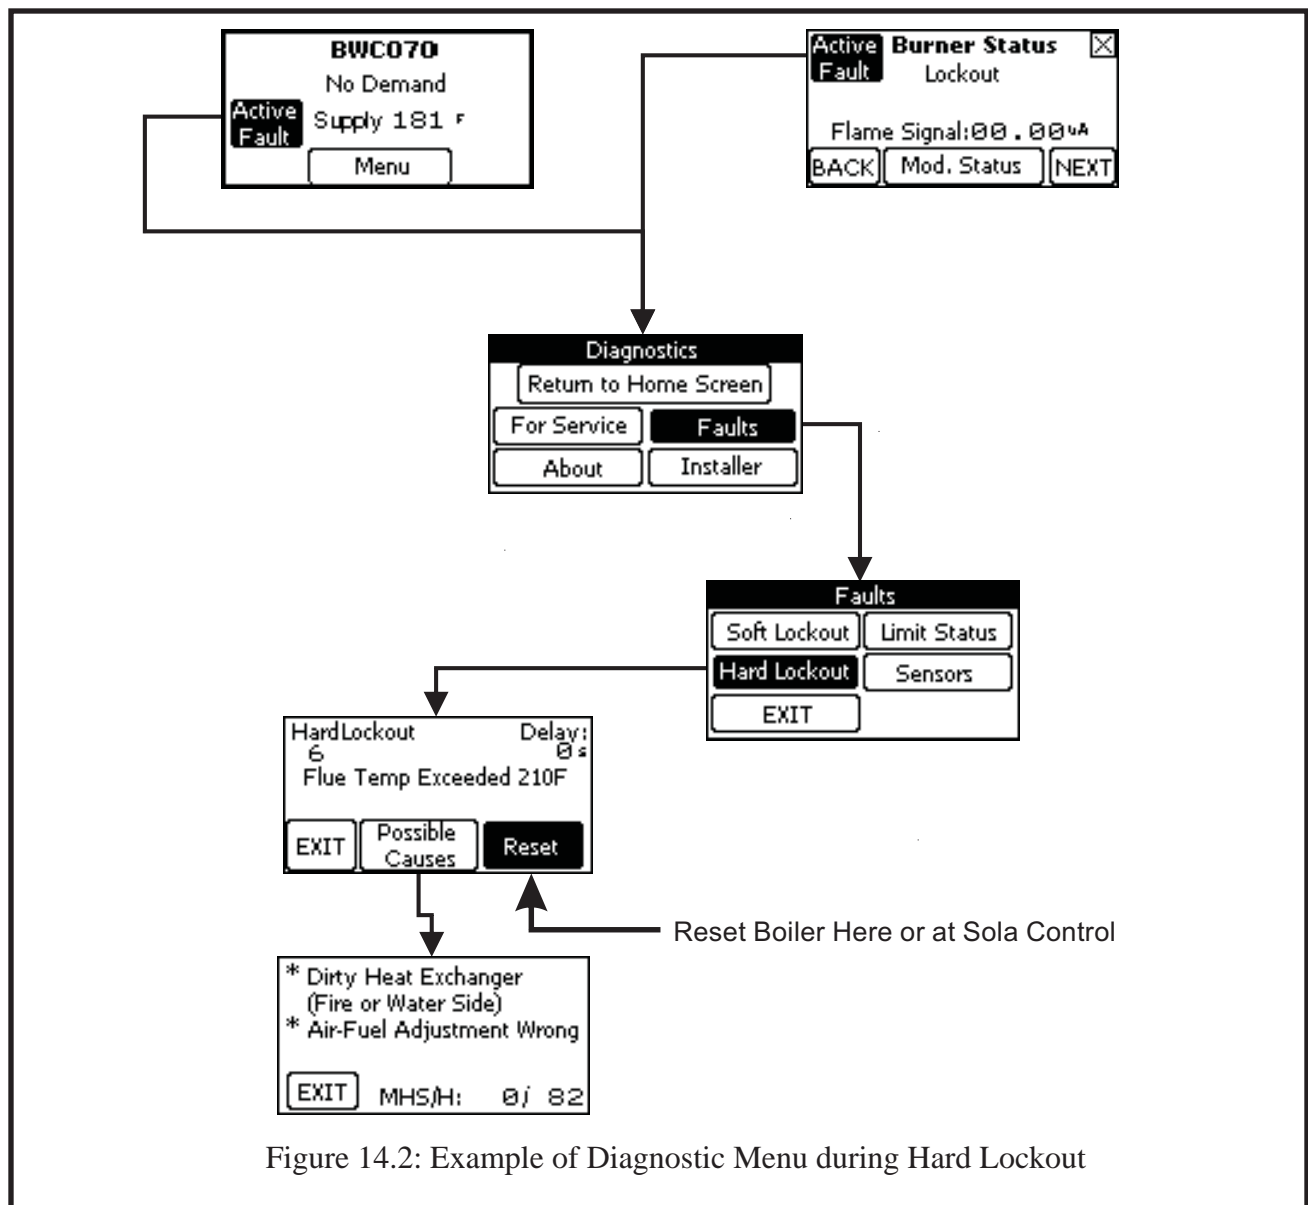

Figure 14.2: Example of Diagnostic Menu during Hard Lockout
- b) **Hard Lockout** - A hard lockout prevents the boiler from firing until the problem has been corrected AND the boiler has been manually reset. This can either be done at the Sola itself or on the hard lockout screen. An example of the Fault Menu structure during a hard lockout is shown in Figure 14.2